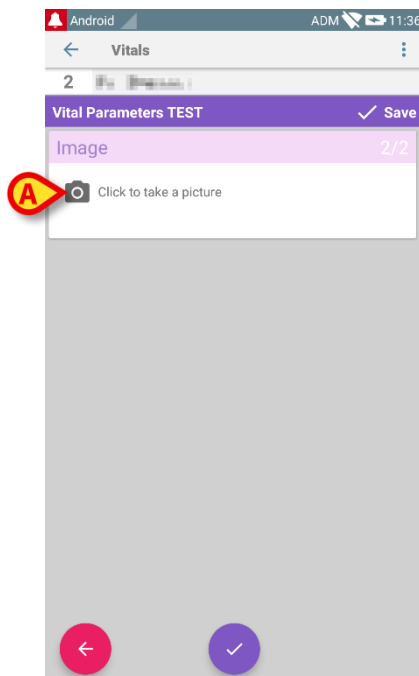

Fig 63
The following screen will open (Fig 63)
- Touch the icon indicated in Fig 63 **A** to activate the camera (Fig 64).
2. keep the picture and go back to the photo acquisition page (Fig 63);
3. discard the picture and go back to the photo acquisition page (Fig 63).